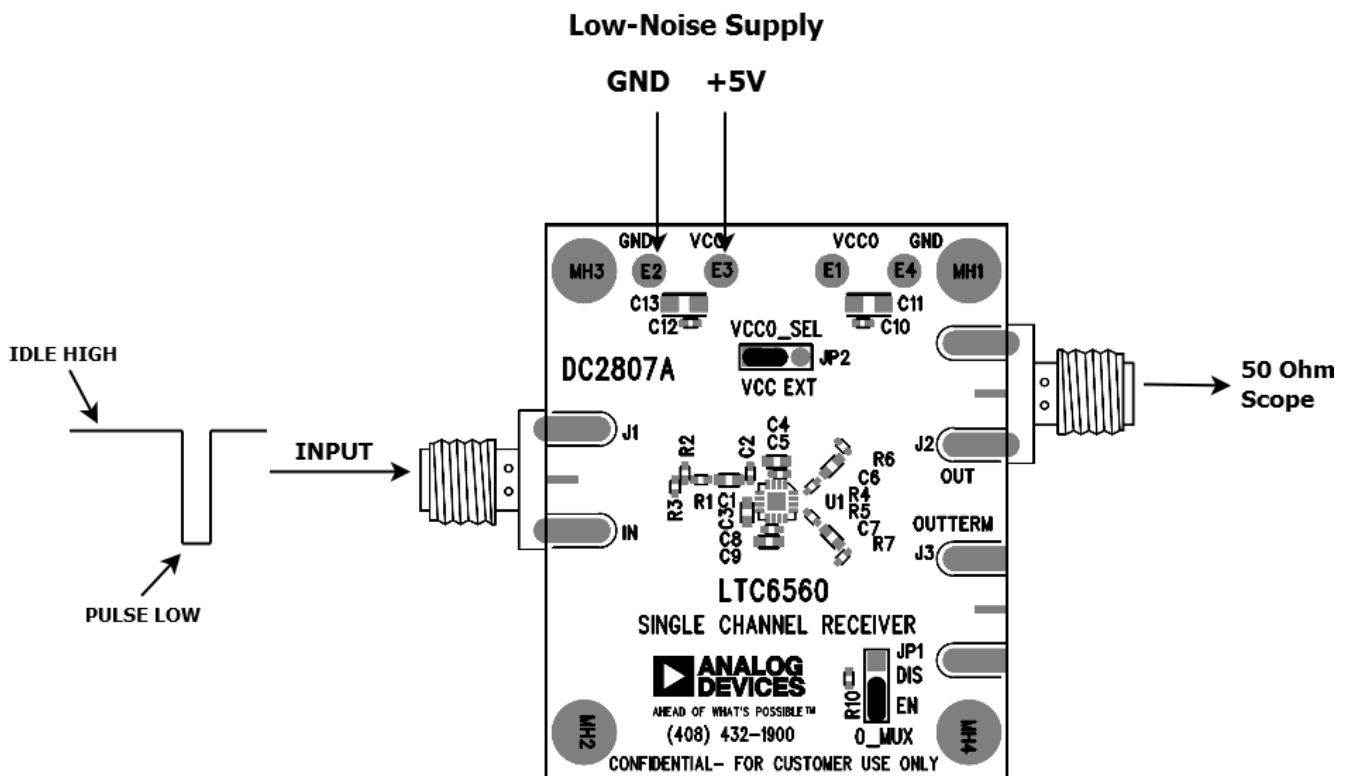

Figure 1. DC2807A Connection Diagram
3. Connect a 5V low noise power supply shown in Figure 1. VCC0 is hardwired to VC0 by default.